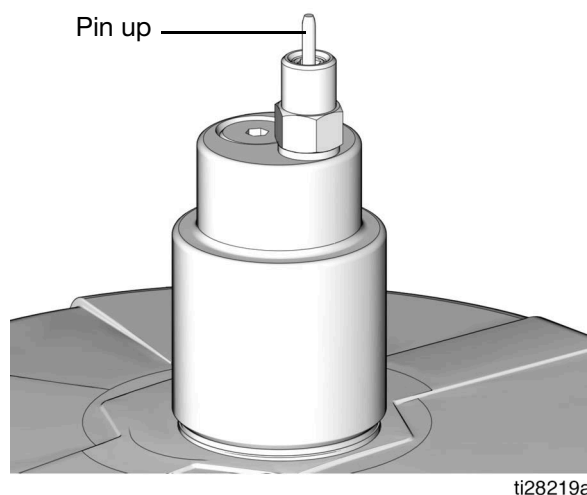

FIG. 23
3. Remove the yellow dust cover from the fill coupler (M).
4. Connect the supply hose (J) between the remote filling station pump (F) and the fill coupler port (marked with an "I").
5. Start the remote filling station pump (F).
6. When the G5 reservoir (D) is filled:
- the remote filling station pump (F) stalls (dead-heads),
- the auto-fill shut off valve pops up (FIG. 23),
- the pressure gauge (R) rises to the fill pump's set pressure.
2. Connect the supply hose (J) at the quick disconnect (V).
3. Turn on remote filling station pump (F) and fill the G5 reservoir (D) until the indicator pin on the auto-fill shut off valve (B) is pushed up (see FIG. 23). The pressure in the refill pump (F) increases and the pump stalls.
4. Turn off the air supply (H) to the refill pump (F).
6. Disconnect the supply hose (J) from the quick disconnect (V).